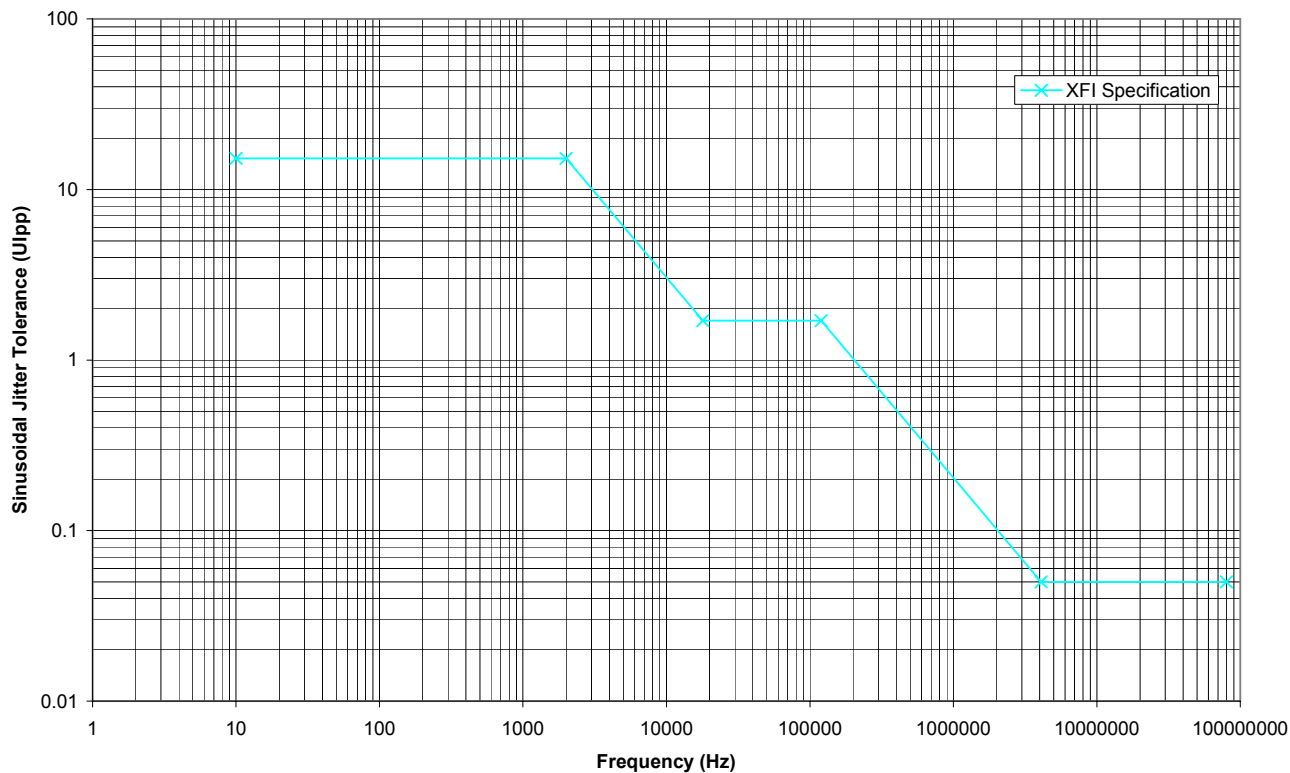

Figure 5. XFI Sinusoidal Jitter Tolerance (UI_{pp})
- The jitter tolerance given in Figure 5 must be met in addition to the random deterministic jitter given in this table.